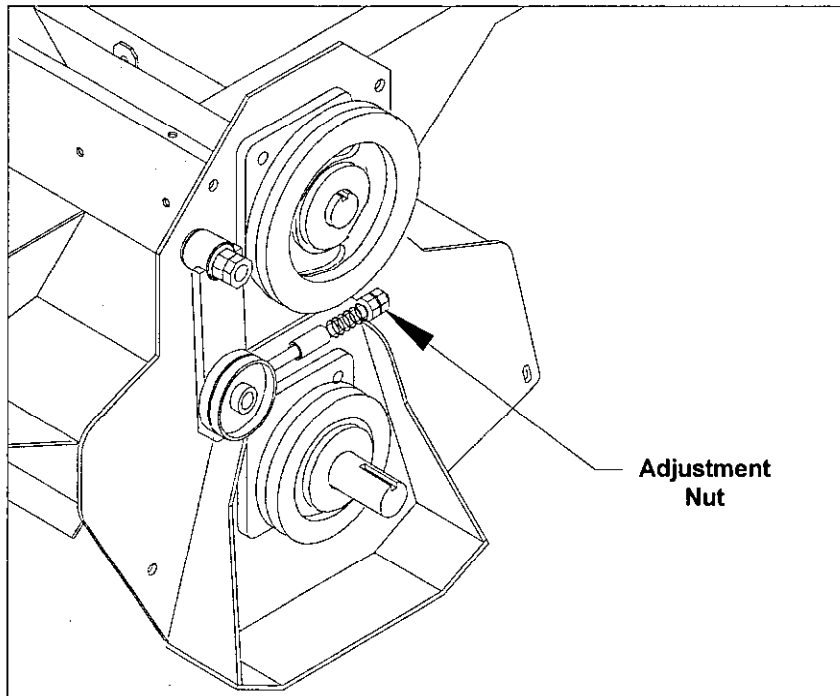

Figure 6
15. Using the adjustment nut on the spring rod, set the tension of the belt. (See Fig. 6).
### ADJUSTING BELT DRIVE (Fig. 6)